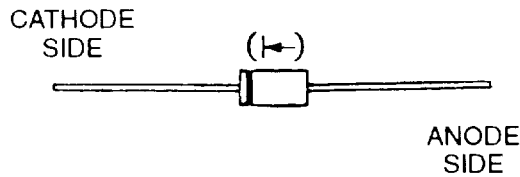

FIGURE 2-18. Diode Identification
- j. Connect positive lead of multimeter to cathode side and negative lead to anode side of each diode CR1, CR2, CR3, and CR4. Refer to FIGURE 2-18. Note ohms indication on multi meter for each diode.